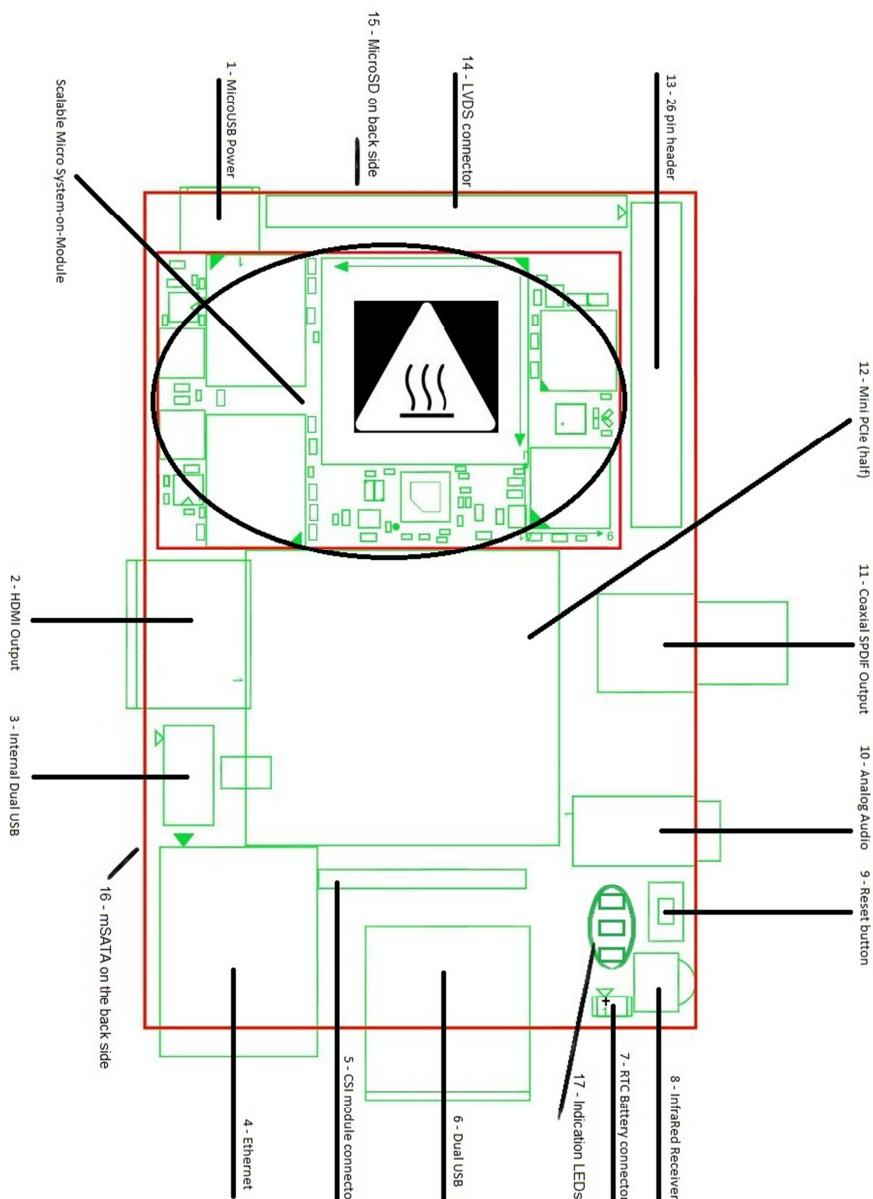

Figure 2 HummingBoard key features
- g) When installing RTC Backup battery, check for: Compatibility with NXP's PCF8523 specifications. Positive pin of battery is connected to pin 1 of the RTC Backup Battery connector (see figure 2). Battery's actual worst case temperature and withdraw current meet battery specification.
See figure 2, page 3